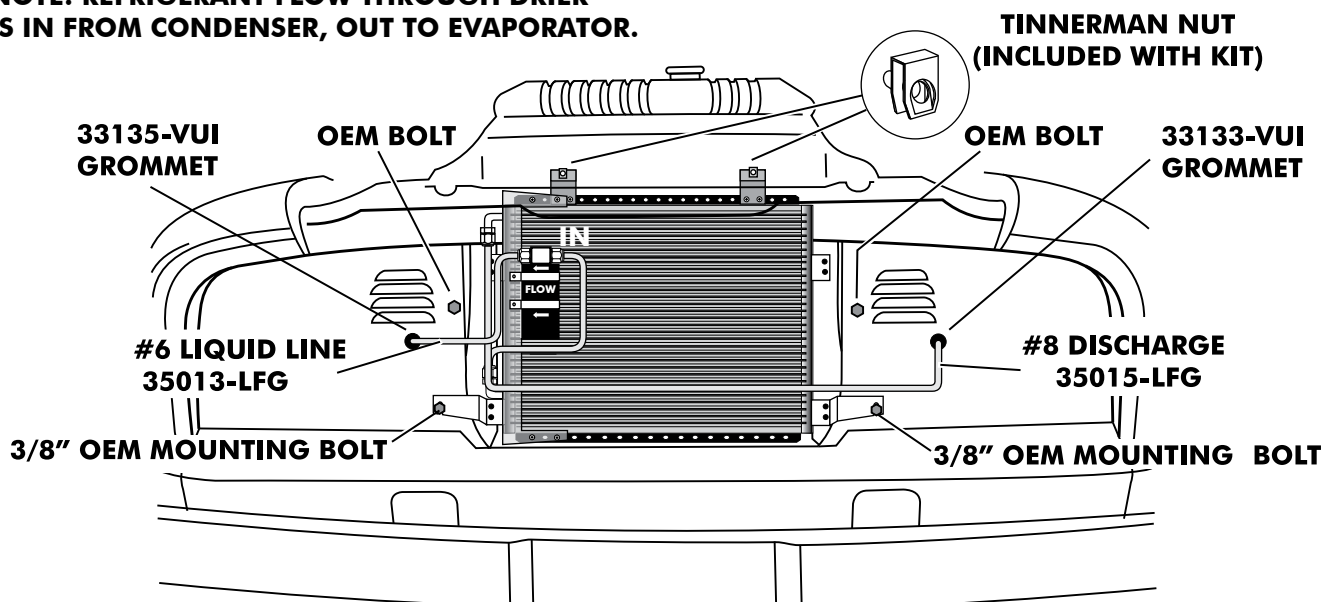

FIGURE 3
- ☐ 2. LOOSEN THE TWO 3/8" O.E.M. MOUNTING BOLTS AS SHOWN IN FIGURE 3, PAGE 7.
- ☐ 3. POSITION CONDENSER ON CORE SUPPORT AS SHOWN IN FIGURE 3, PAGE 7.
- ☐ 2. INSTALL THESE GROMMETS IN THE 1-1/4" HOLES (PREVIOUSLY DRILLED) IN THE CORE SUPPORT (SEE FIGURE 3).
- ☐ 4. LOCATE A #6 O-RING . LUBRICATE AND INSTALL ON THE #6 LIQUID HARDLINE . SEE FIGURE 3,BELOW AND FIGURE 5 ,PAGE 10.
- ☐ 5. ROUTE THIS LINE THROUGH THE CORE SUPPORT GROMMET AS SHOWN IN FIGURE 3 AND CONNECT TO DRIER.
- ☐ 8. ROUTE THIS LINE THROUGH THE CORE SUPPORT GROMMET AS SHOWN IN FIGURE 3, AND CONNECT TO THE CONDENSER. TIGHTEN THIS FITTING.